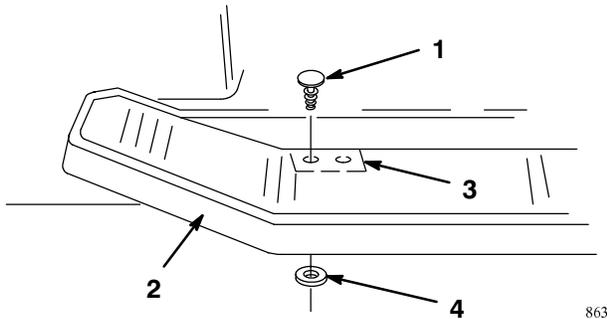

Figure 11
4. Press the plastic fasteners through the open holes in the footrest pad and into the retaining washers under the support bracket (Fig. 11).